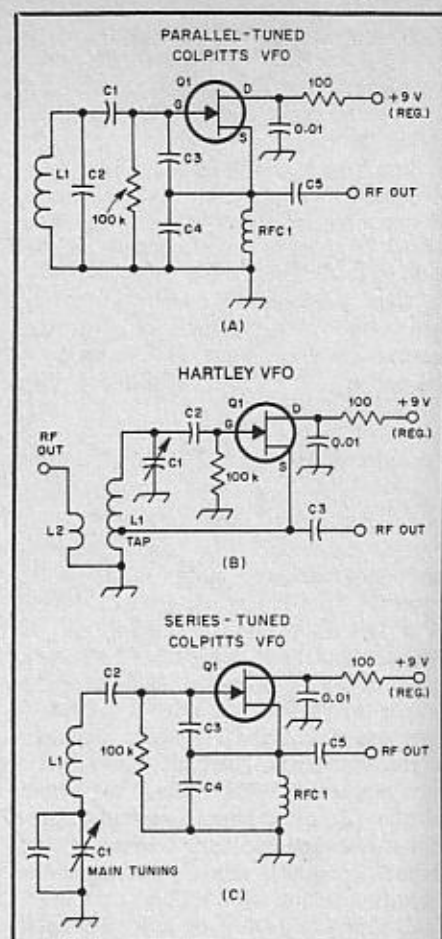

Fig. 4 — Examples of coil-capacitor oscillators (see text).
Three types of LC oscillators are shown in Fig. 4. The first example (A) is probably the most common of the three in ham equipment. Since C2 and L1 are in parallel, this is called a parallel-tuned oscillator. C3 and C4 provide the path for our feedback energy. In LC oscillators the value of C3 and C4 are approximately the same. A